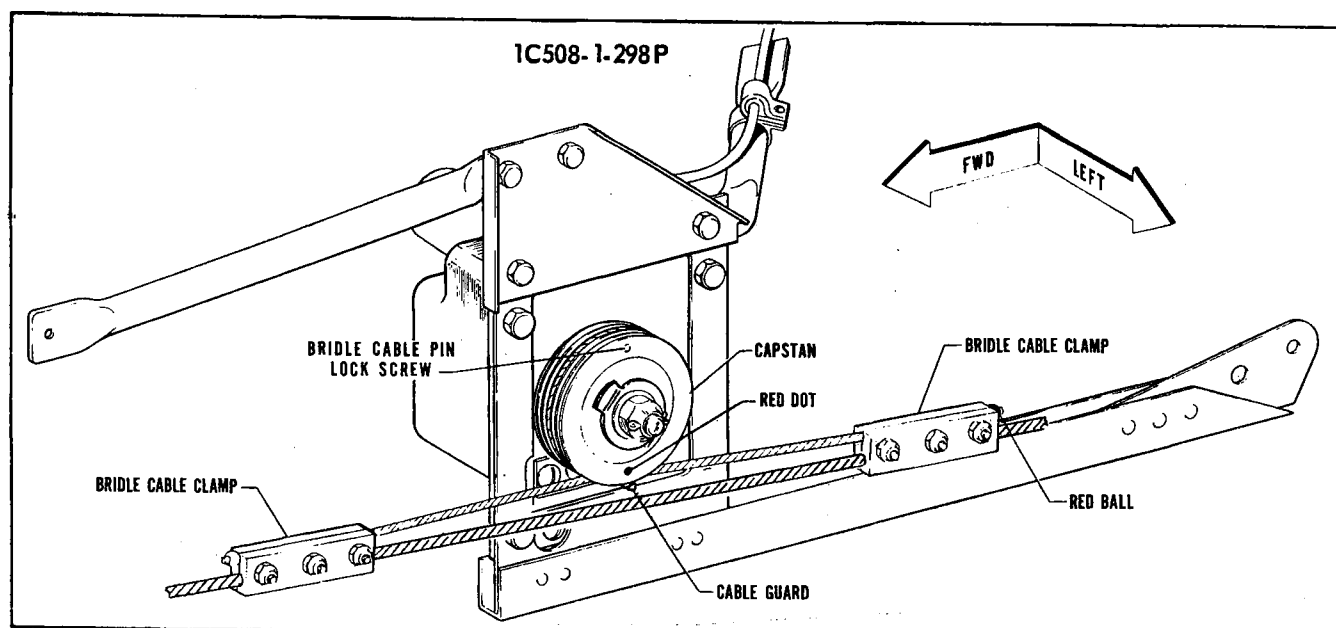

Figure 3-30. Pitch Servo Installation, PA-34-200
- e. REFER TO FIGURE 3-14 AND CHECK THAT THE CONTROL CABLE TENSION (Z) IS ADJUSTED TO 40 +5 -0 POUNDS PRIOR TO ATTACHING THE BRIDLE CABLE CLAMPS. Ascertain area on cable where clamp attaches is clean, dry and free of all lubricants and anti-corrosive additives. Attach the bridle cable to the stabilator control cable. The bridle cable is drawn to the right stabilator control cable and attached with clamps at the previously painted locations on the control cable. The longest portion of the bridle cable or the end with the red ball extends aft. (Refer to Figure 3-30.) (Should the balance cable not be painted, place the control wheel midway between stops (fore and aft) and position the capstan pulley so that the bridle cable pin will be located 180 degrees (pin up) from the control cable.) Adjust the bridle cable clamps so the bridle cable tension Y is equal to the control cable tension between the bridle cable clamps (X) as shown in Figure 3-14 without increasing the control cable tension from the bridle cable clamps outward. At no time shall the bridle cable tension be greater than the control cable tension between the clamps. Adjusting the bridle cable tension will lower the control cable tension between the two bridle cable clamps. Torque the bridle cable clamp nuts to 55 ± 5 inch-pounds.